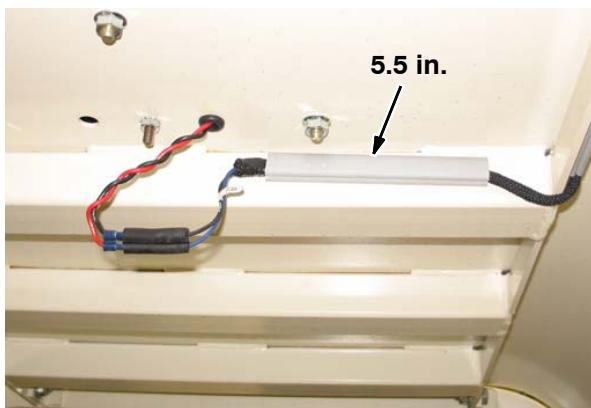

FIG. 1
6. Cut a 5.5 in. piece, 18 in. piece, and 20 in. piece from the vinyl duct (8).
7. Install the three pieces of vinyl duct (8) cut in the previous step onto the overhead guard. (Fig. 1 / Fig. 2 / Fig. 3 / Fig. 4)
8. Route the warning light harness (7) through three pieces of vinyl duct (8) and connect the warning light harness to the main wire harness. (Fig. 1 / Fig. 2 / Fig. 3 / Fig. 4 / Fig. 5.)